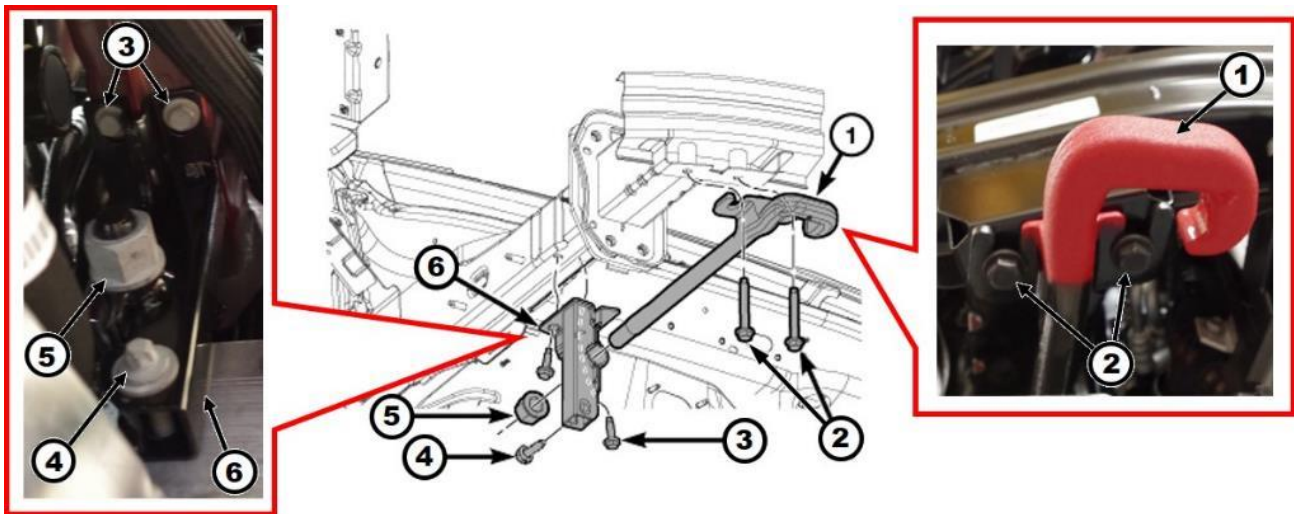

Figure 28 – Tow Hook
33. **If equipped,** remove the tow hook bolts (2) and remove the nut (5) then Remove the tow hook (1) (Figure 28).
34. **If equipped,** remove the tow hook bracket bolts (3) and (4) then remove the tow hook bracket (6) (Figure 28).